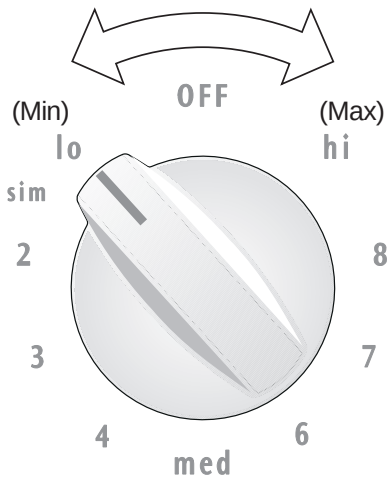

Fig. 1
2. Push in and turn the surface control knob in either direction to the desired setting (See Fig.1). Start most cooking operations on a higher setting and then turn to a lower setting to finish cooking. The control knobs do not have to be set exactly on a particular setting. Use the settings as a guide and adjust the control knob as needed.
1. Open oven door completely (horizontal with floor - See Fig. 1).